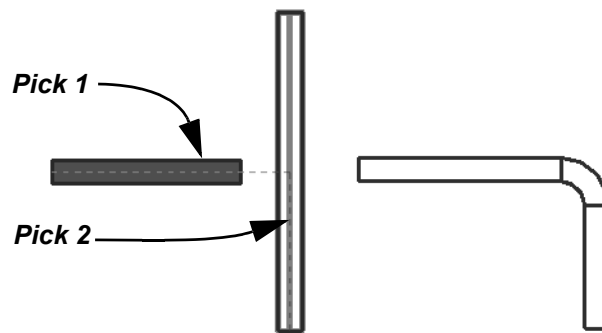

Figure 2–96
3. Select the second linear element on the side you want to keep, as shown in Figure 2–96.